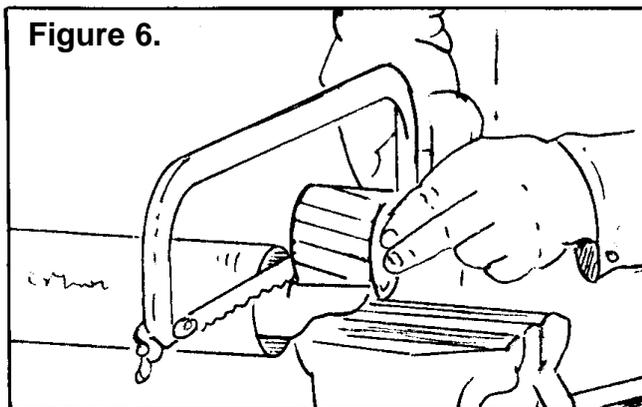

Figure 6.
6. If driveline must be cut to a shorter length, clamp driveline in a well padded vise to prevent damage to the shield. Cut off shield where marked. Using cut-off section of shield as a guide, cut shaft the same amount. (Figure 6.)